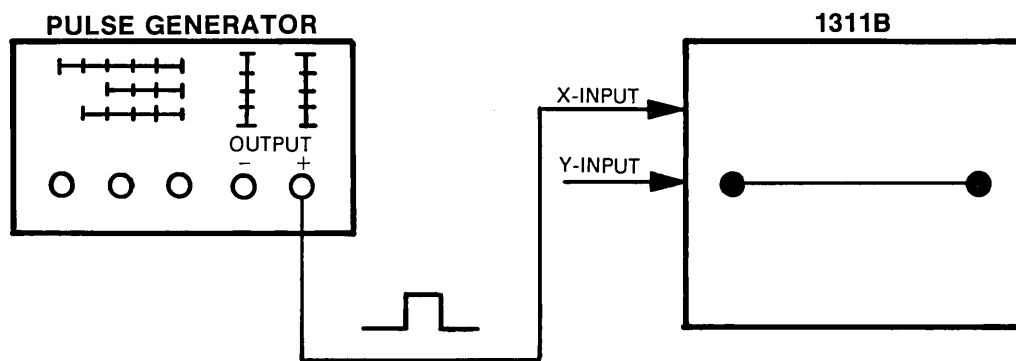

Figure 4-4. Repeatability Test Setup
- a. Connect equipment as shown in figure 4-4.
- b. Set frequency of pulse generator for a 10 kHz signal. Adjust display POSITION controls to bring trace on screen. Set pulse generator amplitude for full screen deflection. (See figure 4-4).